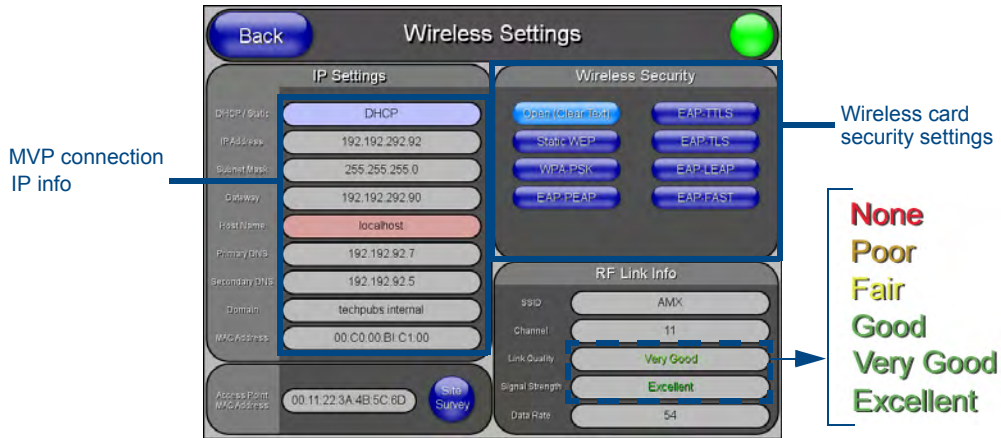

FIG. 17 Wireless Settings page (showing a sample unsecured configuration)
1. Press the **Wireless Settings** button (located on the lower-left) to open the *Wireless Settings* page (FIG. 17).
- The descriptions are **None, Poor, Fair, Good, Very Good, and Excellent** (FIG. 17).